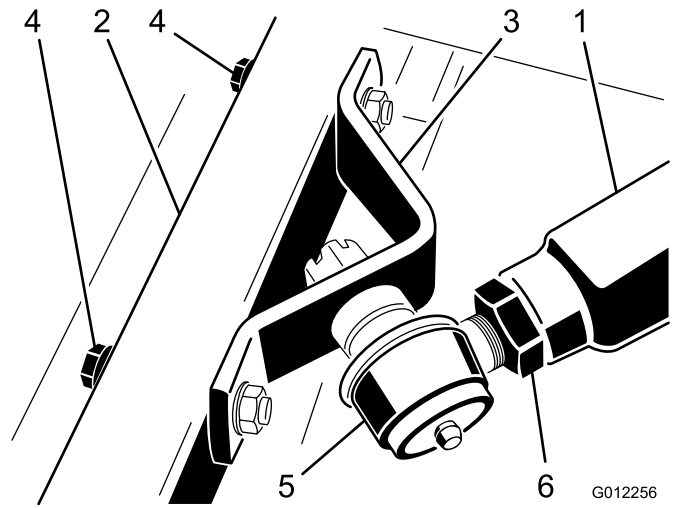

Figure 22
5. Have another person push down on the right push arm while you remove the capscrews, flat washers, and locknuts securing the ball joint mount to the castor arm on the cutting unit (Figure 22). Now the helper can carefully allow the push arm to move upward, which will gradually release the 45 kg (100 pounds) of spring load.
3. Have another person carefully push down on the right push arm until the holes in the ball joint mount line up with the holes in the castor arm (Figure 22).